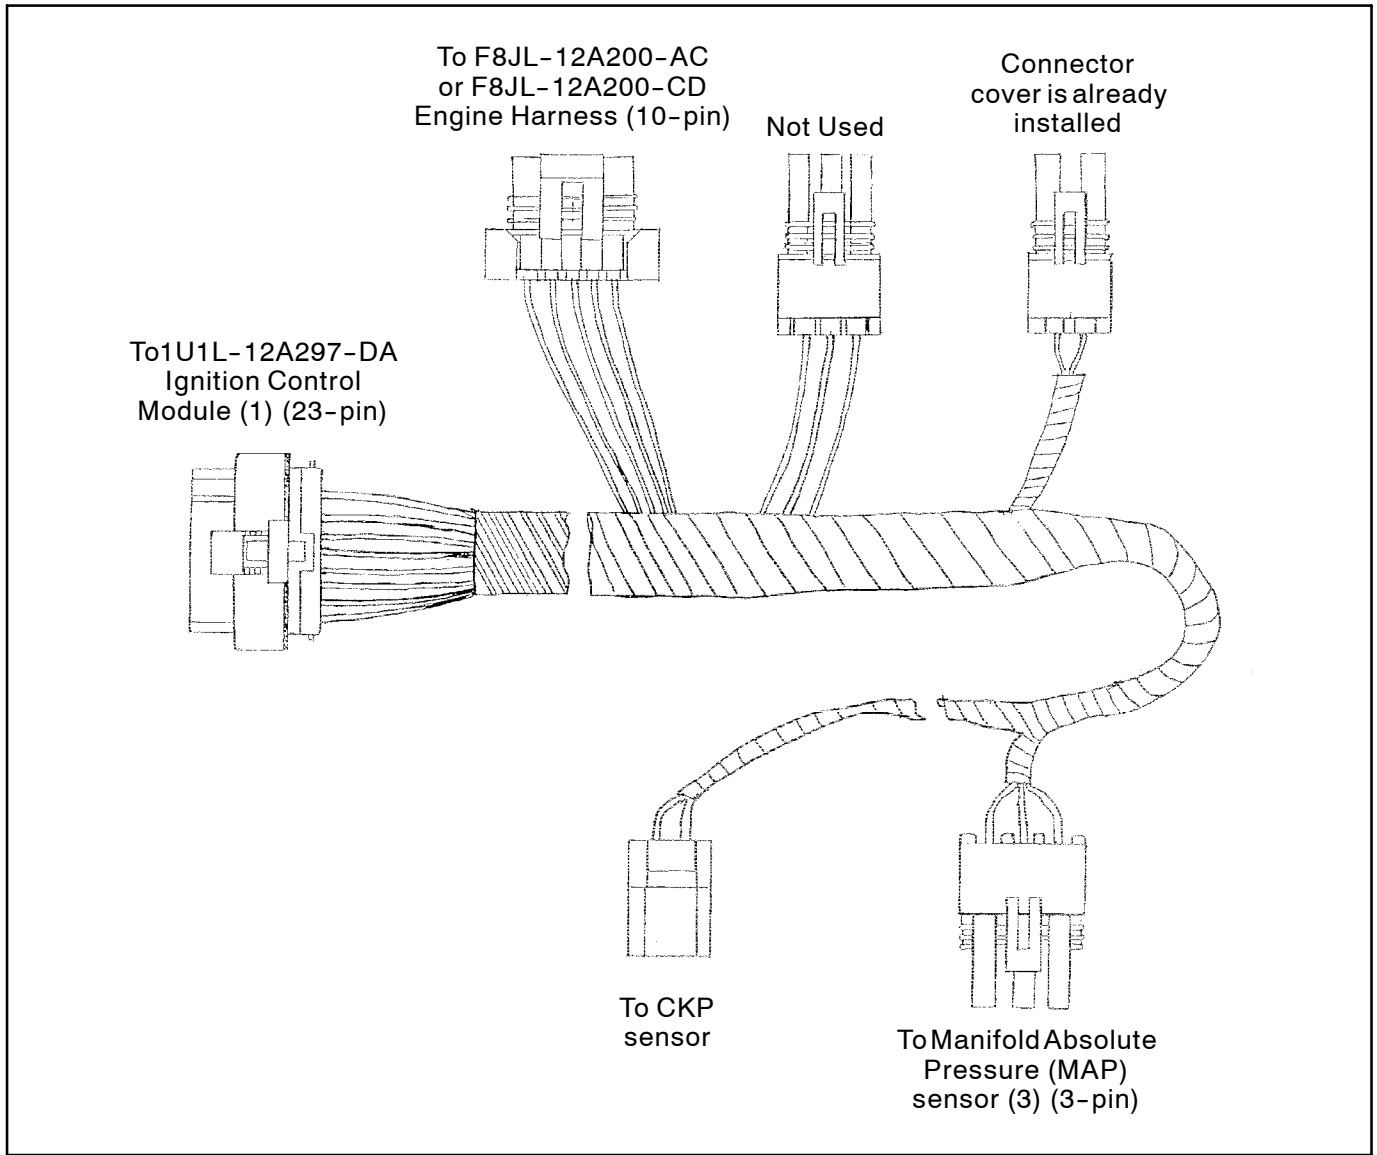

FIG. 2-New Jumper Harness
9. Connect the 10-pin connector on the harness jumper (2) to the existing engine wire harness. Refer to Fig. 2.
10. Connect the 23-pin connector on the harness jumper (2) to the new ignition control module (1). Refer to Fig. 2.
11. Connect the 3-pin connector on the harness jumper (2) to the MAP sensor (3). Refer to Fig. 2.
12. Connect the connector on the harness jumper (2) to the CKP sensor. Refer to Fig. 2.
13. Connect one end of the vacuum hose (4) to the MAP sensor (3).
14. Connect the other end of the vacuum hose (4) to the vacuum port on the intake manifold.
15. Use two clamps (5) to secure the harness jumper (2) and unused connectors to the main wire harness.